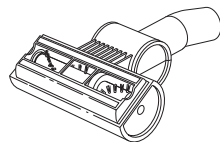

Fig. 28
- 3 Turn the power brush over to inspect the rotating brush and cut away any build-up of hair or string wrapped around the rotating bristle brush with scissors. **(Fig. 28)**